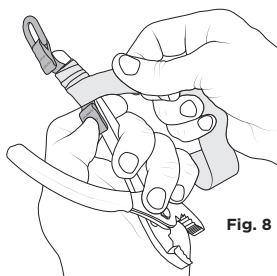

Fig. 8
5. Select and apply the appropriate tool trap using the selection grid to secure your Web Tool Tail™ [fig. 8]. **DO NOT use Cold Shrink Traps with Web Tool Tails™**